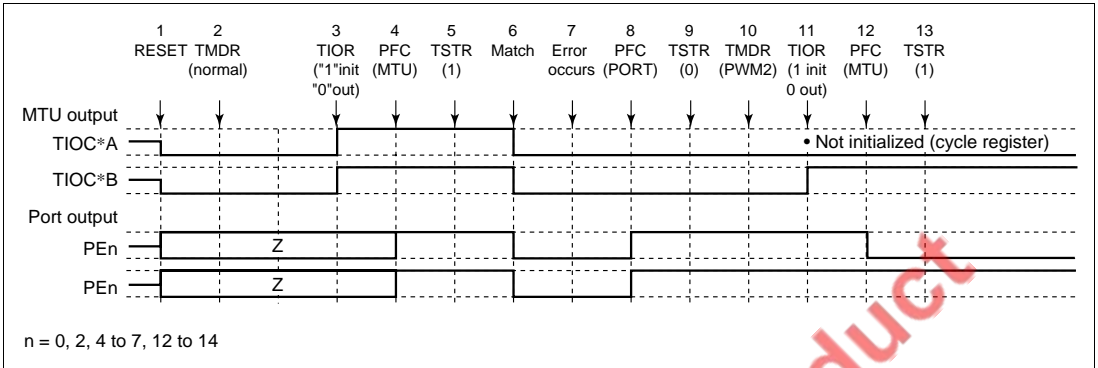

Figure 8.51 Error Occurrence in Normal Mode, Recovery in PWM Mode 2
(3) Operation when Error Occurs during Normal Mode Operation, and Operation is Restarted in PWM Mode 2: Figure 8.51 shows an explanatory diagram of the case where an error occurs in normal mode and operation is restarted in PWM mode 2 after re-setting.